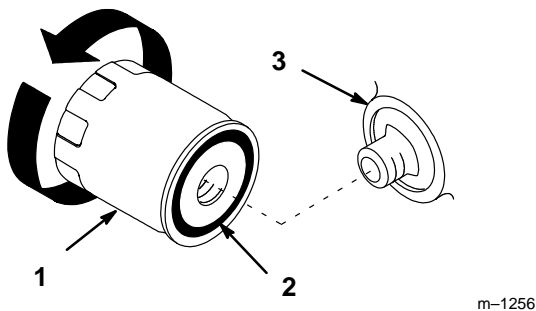

Figure 18
2. Remove the old filter and wipe the filter adapter (Fig. 18) gasket surface.
3. Apply a thin coat of new oil to the rubber gasket on the replacement filter (Fig. 18).
4. Install the replacement oil filter on the filter adapter. Turn the oil filter clockwise until the rubber gasket contacts the filter adapter, then tighten the filter an additional 1/2 turn (Fig. 18).